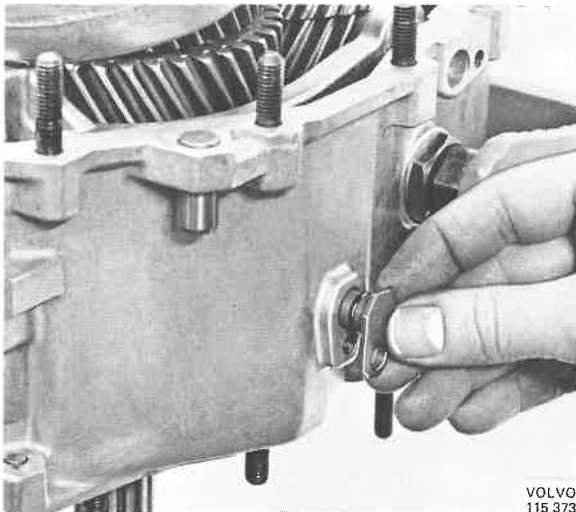
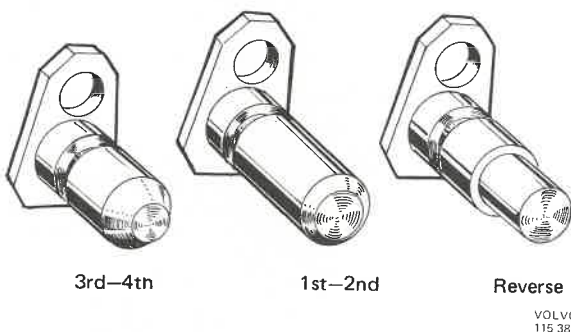

Fig. 43-111. Fitting bearings pins
Fig. 43-112. Bearing pins
12. Fit the bearing pins in the selector forks for reverse and 1st-2nd, see Fig. 43-111. There are three types of bearing pins, see Fig. 43-112.